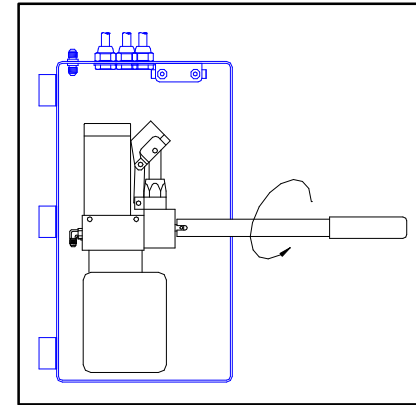

FIGURE 2-11: LIFT OPERATION – PLATFORM MANUAL LOWERING
- Refer to **Figure 2-11**. Insert the pump handle extension onto manual backup pump release valve. Make sure the notches at the end of the handle are fully engaged by the release valve pin. Slowly twist the handle 1/4-turn COUNTER-CLOCKWISE until the lift platform begins to lower.